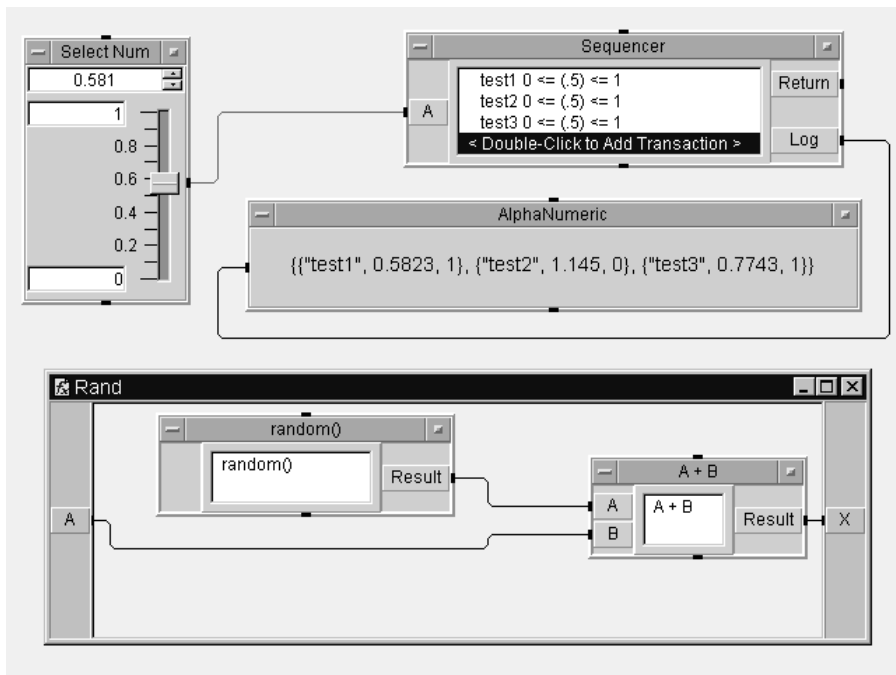

Figure 15.7. Passing three tests using an input terminal
35. Save this program as LAB15-2a. It should look like Figure 15.7.